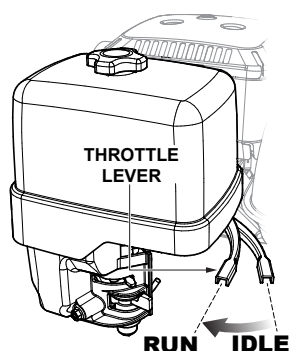

Figure 17. Throttle Lever (Run Position)
1. Once the engine has started, move the engine throttle lever quickly to the **run** position (Figure 17).